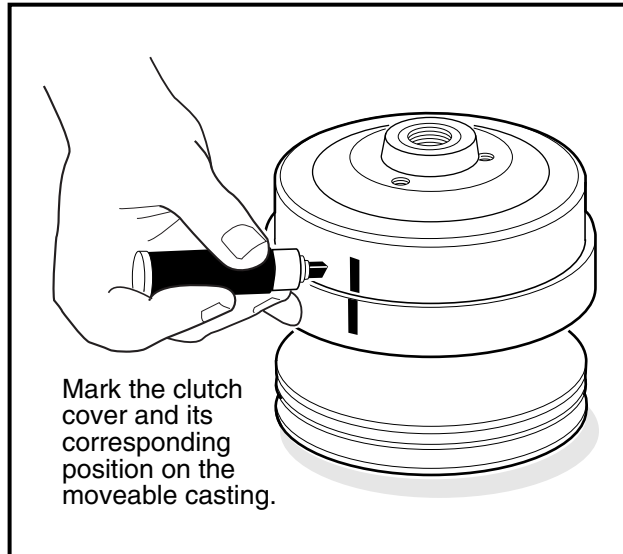

Figure 17-5 Mark Clutch Cover
- **The drive clutch is balanced as an assembly. Before disassembly, make match marks on the clutch cover and on the moveable face assembly so they can be reassembled in the same positions (Figure 17-5, Page 17-7).**
1. Make match marks on the clutch drive hub and on the moveable face casting (Figure 17-5, Page 17-7).